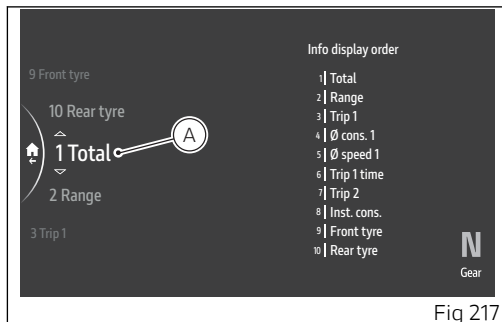

Fig 217
- Two arrows (A, Fig 217), are displayed above and below the position number indicating that it can be changed from 1 to 10 (in this example “3”) using the corresponding joystick positions ▲ ▼.